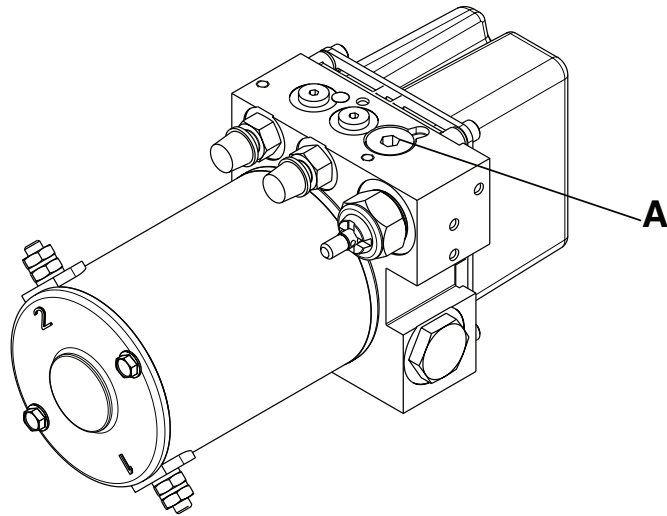

Figure 44 – Hex plug location
4. Using a 1/4" hex wrench, remove the hex plug (A) from the top of the hydraulic manifold assembly (Figure 44). Save the hex plug.